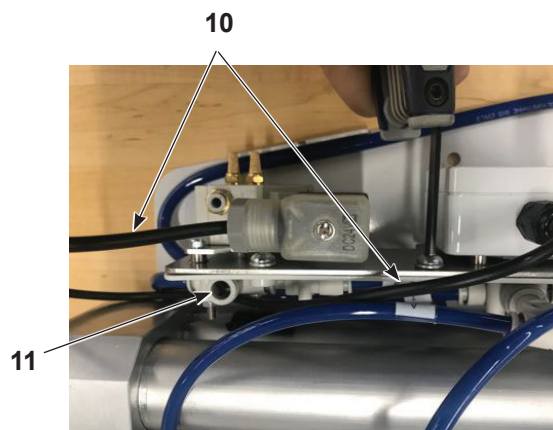

Figure 5 Routing Control Valve Cable
13. See Figure 5. Loop and tuck control valve cable (10) between the pump and existing bracket.
14. Install 8 mm x 6 mm reducer (11) into the existing cross connector.